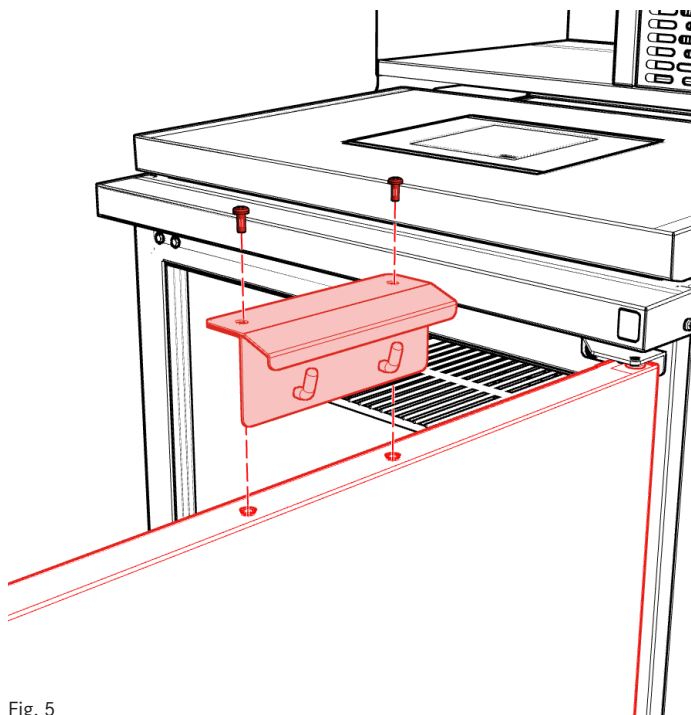

Fig. 5
Position glove holder bracket over mounting holes on top of front loading door. Fasten bracket to door with two (2) of the supplied screws (Fig. 5).